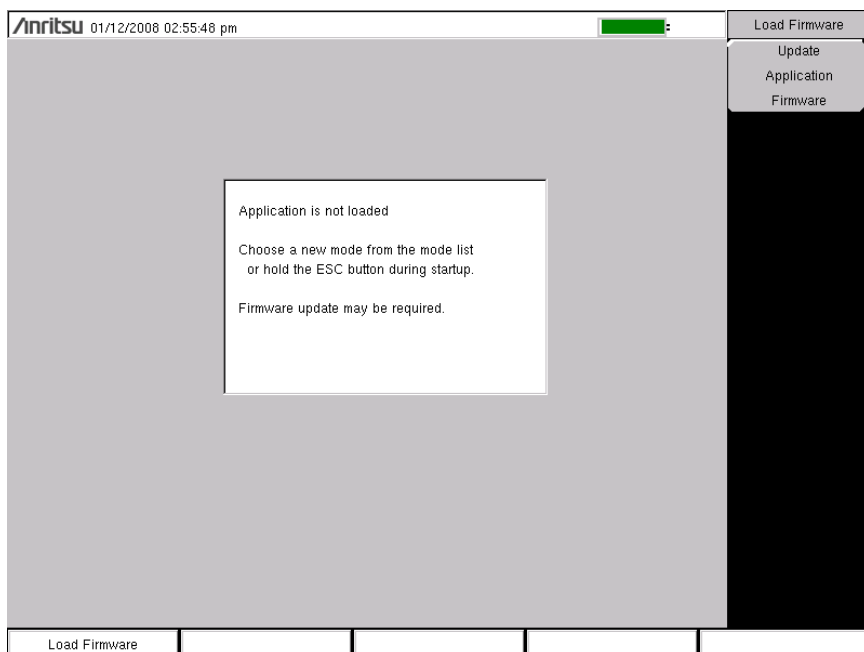

Figure 5-9. Firmware Main Menu
2. Press the follow key sequence: **Shift > System (8) > System Options > Reset > Update Firmware**. The Load Firmware main menu key is displayed (Figure 5-9).